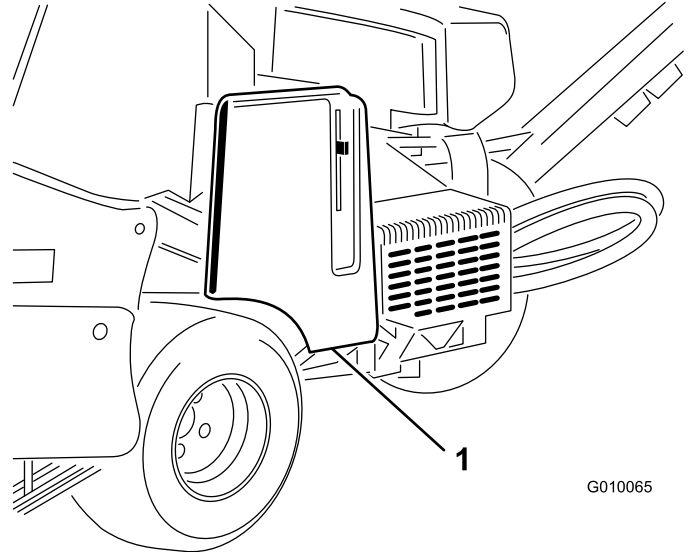

Figure 55
2. Unlatch and remove the belt cover (Figure 55).